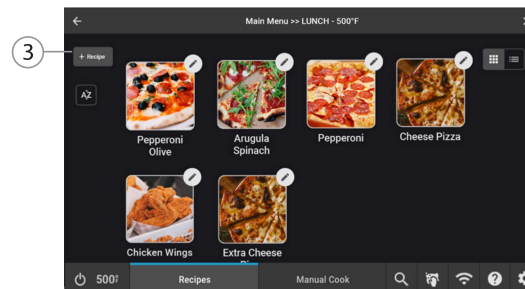

Figure 26: Add/Create Recipe
- Touch the “+Recipe” button (Figure 26, above).